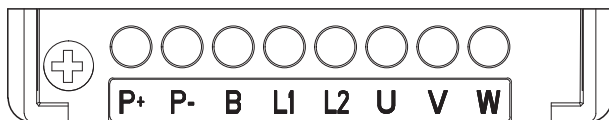

Figure 5-4 Main circuit terminals NVF5-0.4/TD2~2.2/TD2
5.3.1 See figure 5-4 and Table 5.1 for single phase 230V series (NVF5-0.4/TD2~2.2/TD2)